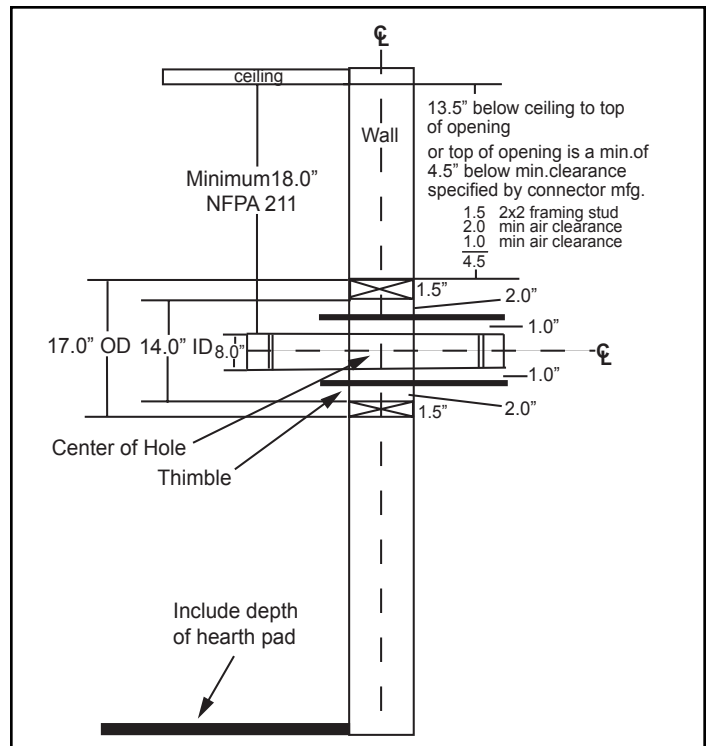

Figure 4.3
- Top of wall opening is a minimum of 13-1/2" (343 mm) from ceiling or 4-1/2" (114 mm) below minimum clearance specified by chimney connector manufacturer. NFPA 211 minimum vertical clearance of 18" (457 mm) from chimney connector and ceiling or minimum recommended by chimney connector manufacturer. Figure 4.3
1. Open inside wall at proper height for the chimney connector to enter the masonry chimney. Figure 4.3